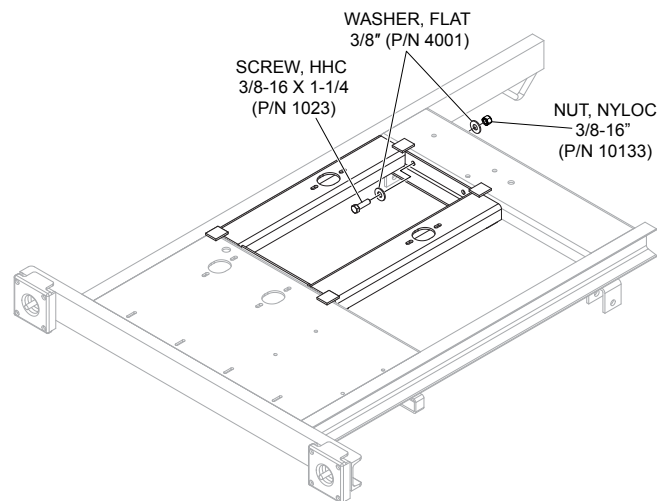

Figure 17. Secure Bracket to Trailer
- Use the nuts, bolts and washers from the kit to secure the rear engine support bracket to the trailer frame. Tighten securely. See Figure 17.